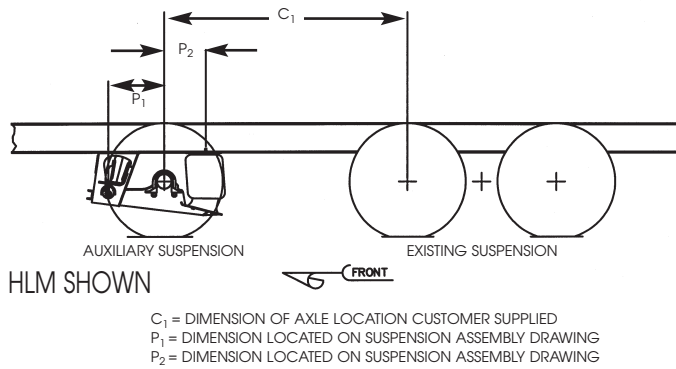

Figure 10
1. Determine the location of the auxiliary axle, mark the location of the center line of the axle on the outside of the trailer frame rail. Refer to the suspension assembly drawing and mark the boundary areas of the auxiliary suspension mounting surfaces on the bottom of the trailer frame rails, sub-frame or spacers. (See figure 10).